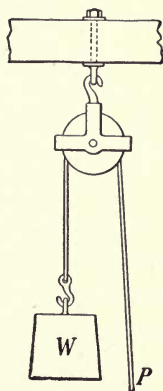

FIG. 17.—A Fixed Pulley.
**37. Simple Form of Pulley.**—The *pulley* is a machine which in its simplest form consists of a grooved wheel, made of wood, brass, or iron, with a rope or chain passing over it, fixed in a framework, and free to revolve. As the type of pulley shown in Fig. 17 turns on an axle fixed in one place it is called a fixed pulley.
A pulley may be considered as a rotating lever which is used simply to change the direction of a force. The belt or rope does the work, not the wheel. There is no leverage in a single fixed pulley, and if the weight is 50 lbs., it takes a pull of 50 lbs. at *P* (ignoring the slight friction of the wheel axle) to raise it. In Fig. 17 the lever arms in the pulley are equal to the radius and the fulcrum is at the center; that is, in a pulley 16 in. in diameter one arm would be 8 in. on one side and the other 8 in. on the other side of the fulcrum.